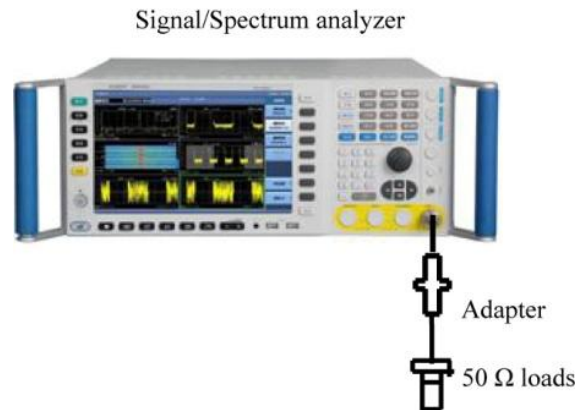

Fig. 8.14 Schematic diagram of display average noise level test
1) Connect the 50 Ω load and the adapter to the input interface of the 4051 analyzer as shown in Fig. 8.14.
- 1) Connect the instrument as shown in Fig. 8.14. Reset the 4051 analyzer and connect 50 matcher at the signal input 50 interface.